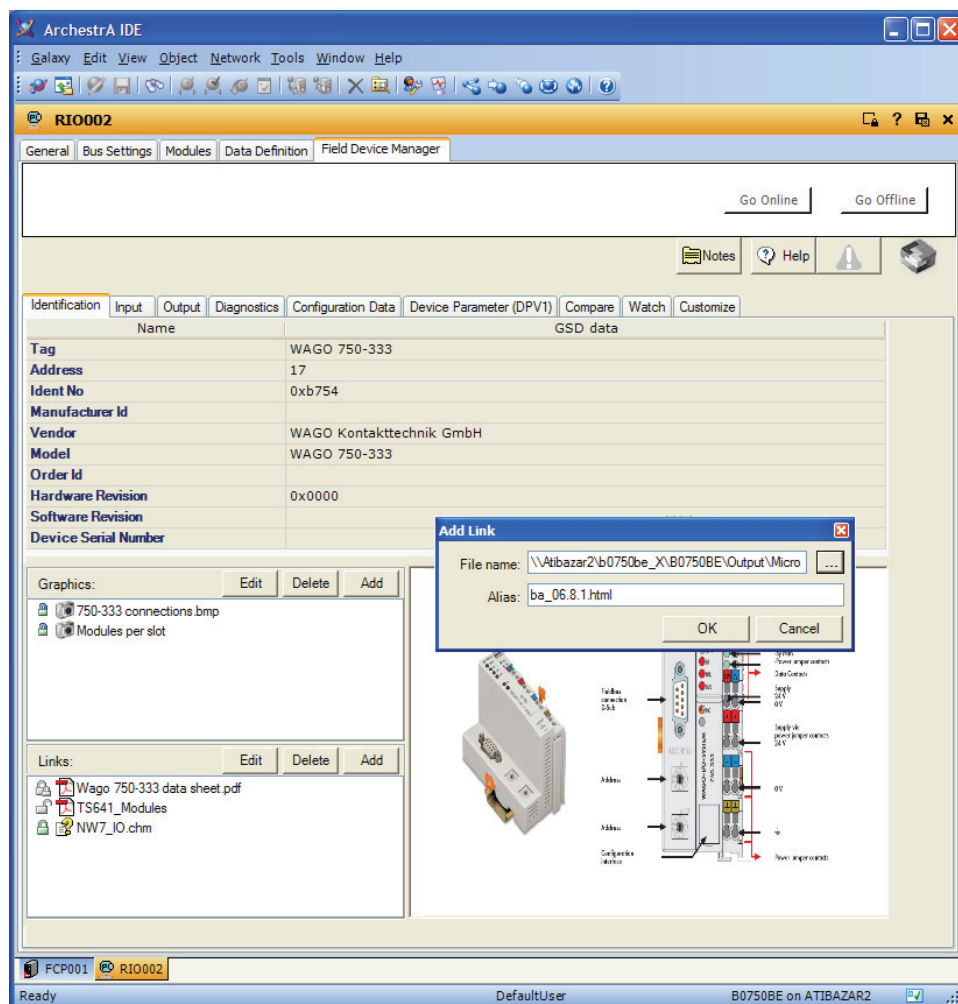

Figure 7. Hyperlinks to Documents and Drawings Can be Made on the Identification Tab
- Identification tab (Figure 7) displays information about the specific device such as the device manufacturer and type, and hardware and software versions. The tab also provides user-configured links for quick and easy access to any document or image useful in engineering or maintaining the field device. The documents images can be linked to the Identification tab in the template or a device instance.